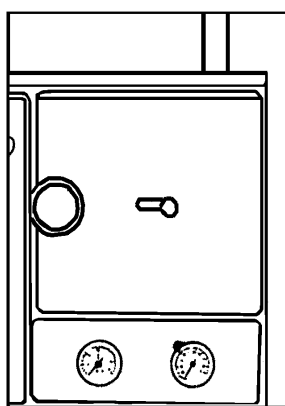

Figure 13
A secondary air regulator is placed in the firebox door (fig.1 pos.8 and fig.13). It is used for regulating the subsequent ignition and combustion of unburned gases. Its opening and closing is performed manually through a knob positioned on the firebox door.